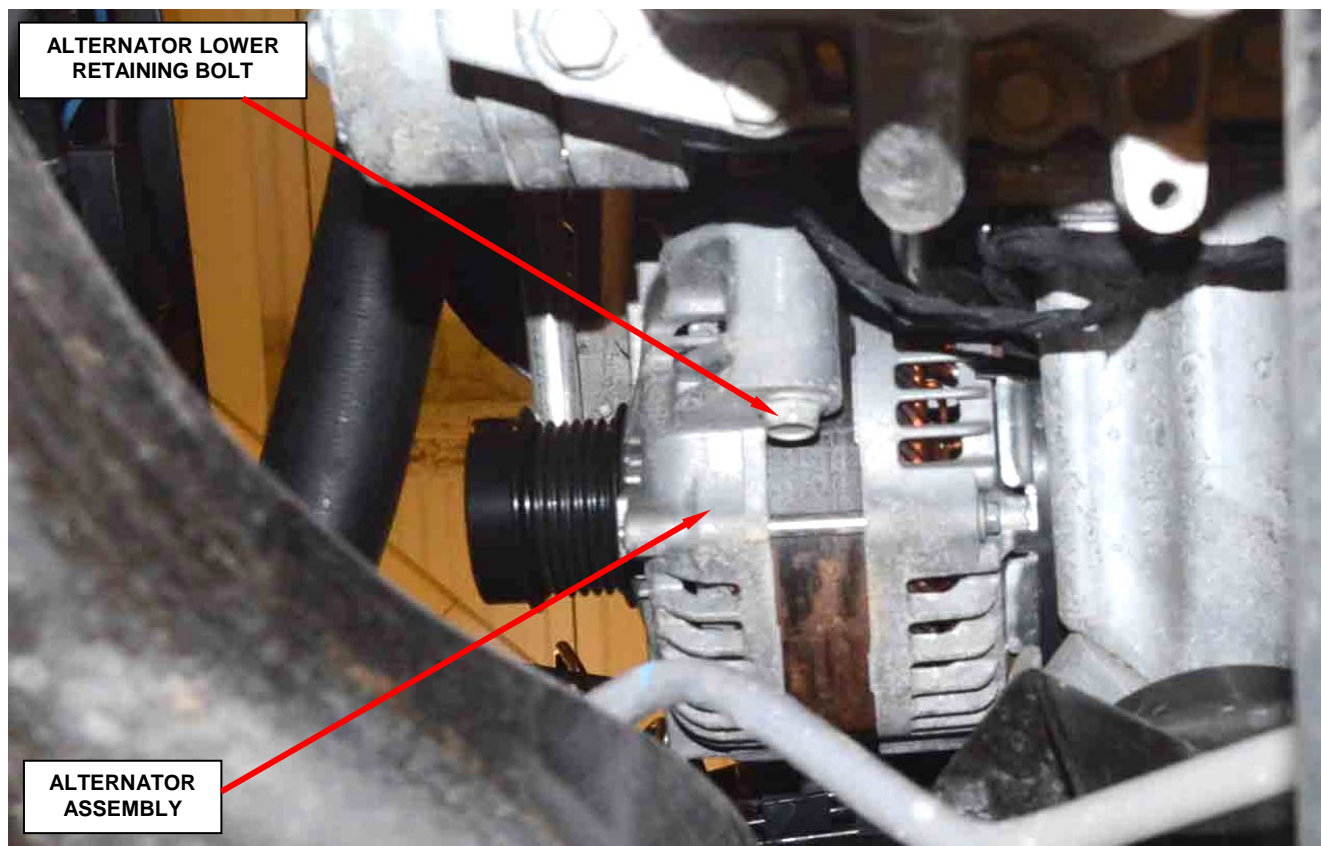

Figure 12 – Lower Alternator Retaining Bolt (viewed from under vehicle)
9. Remove and save the alternator lower retaining bolt (Figure 12).